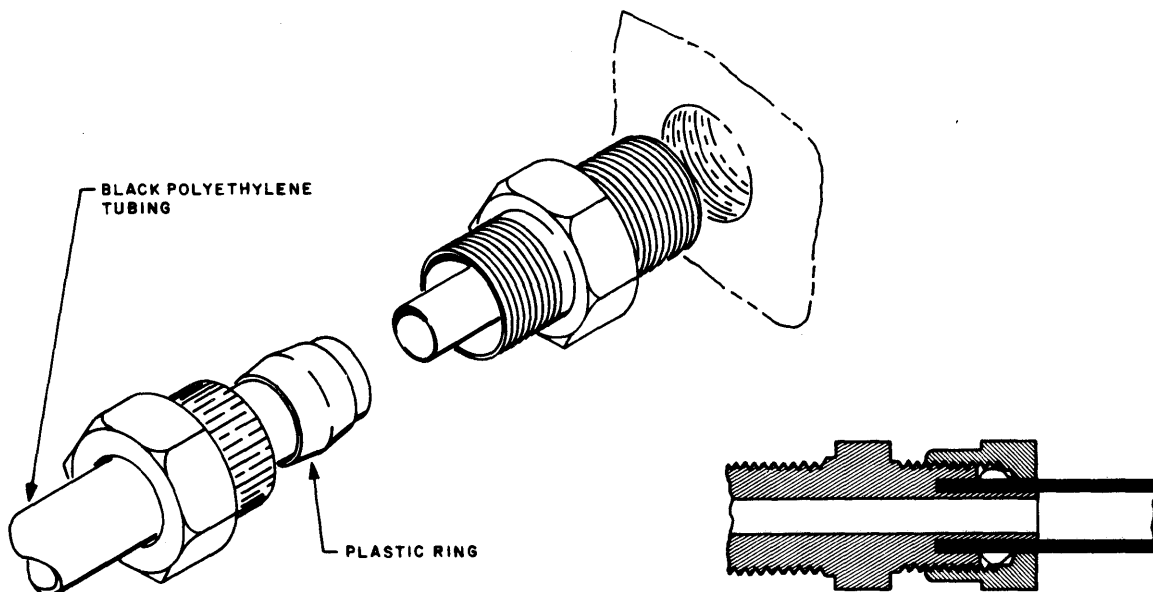

FIGURE 5.7-1
4. Polyethylene tube fittings do not require sealant. Refer to Figure 5.7-1. These fittings should be tightened finger tight and then up to 1/2 turn with a wrench, if required. Do not overtighten or the plastic ring seal may be damaged.